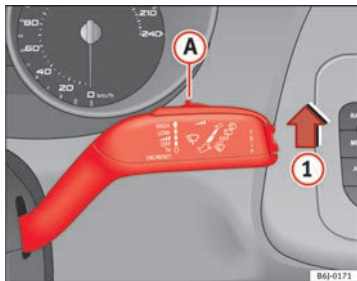

Fig. 64 Windscreen wiper lever
- Move the windscreen wiper lever into position ① ⇒ fig. 64.
- Move the control ① to the left or right to set the sensitivity of the rain sensor. Control to the right: highly sensitive. Control to the left: less sensitive.